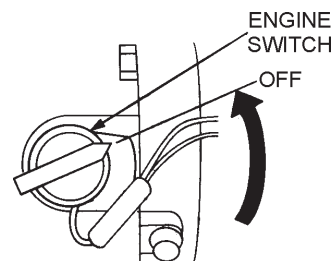

Figure 17. Engine ON/OFF Switch (OFF)
2. After the engine **cools**, turn the engine ON/OFF switch to the “OFF” position (Figure 17).